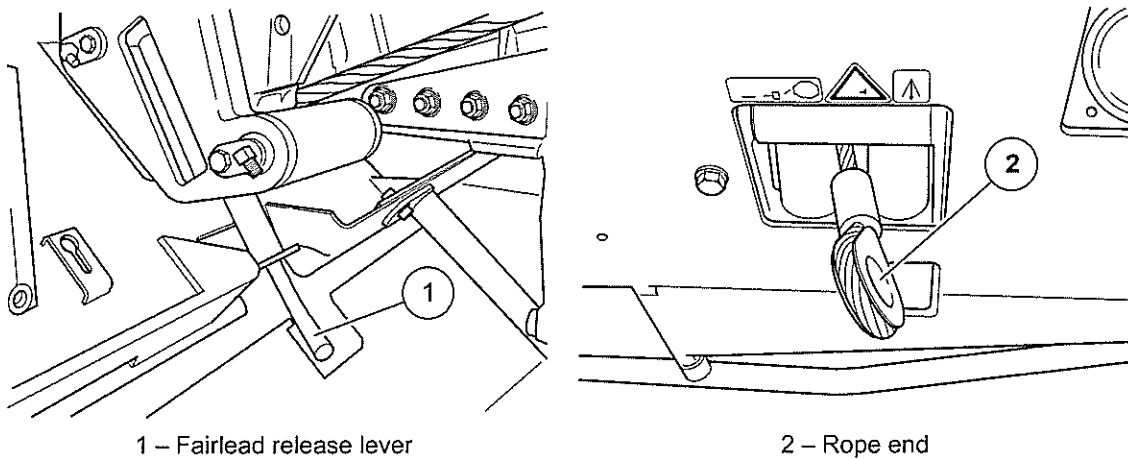

Fig 3 Feed the rope to the front of the vehicle (2)
4.6 Refer to Fig 3. Turn the fairlead release lever (1) a quarter turn anticlockwise to unlock.